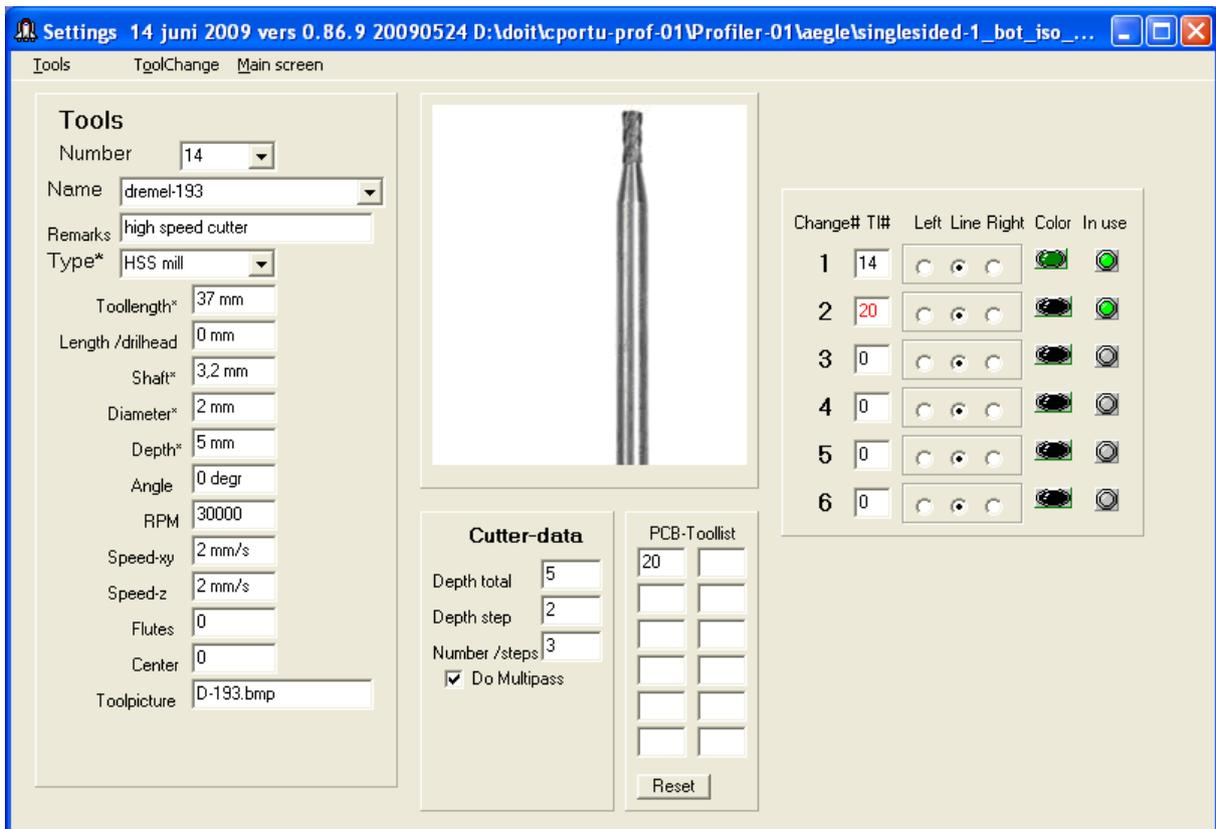

Fig. 3.3.1 Tools and pens. (f8-090614)
3.3 Settings screen (Fig. 3.3.1).